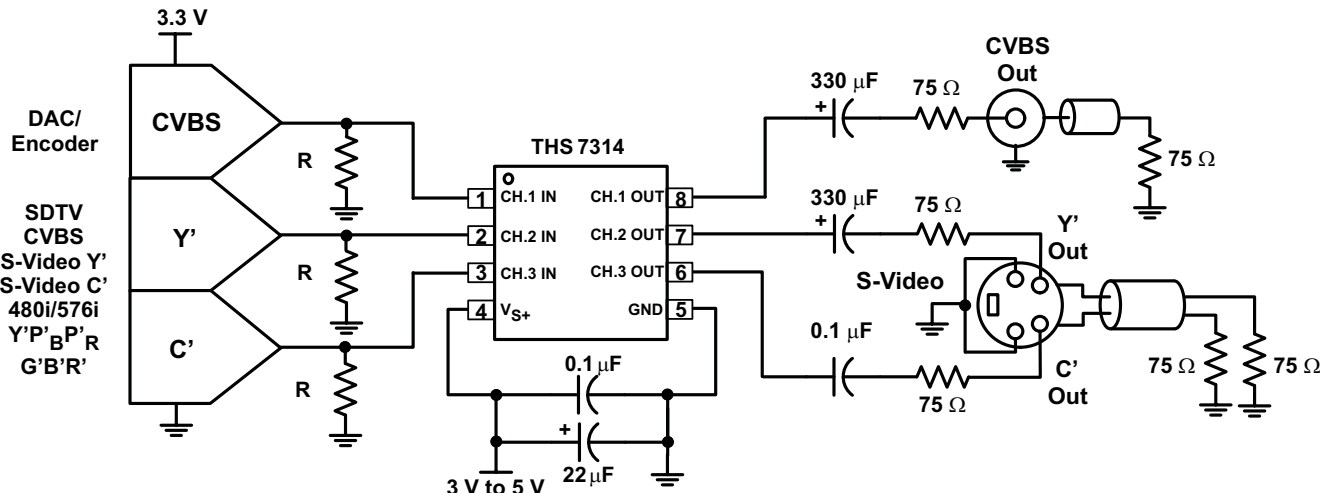

Figure 29. Typical SDTV CVBS/Y'/C' Inputs From DC-Coupled Encoder/DAC With AC-Coupled Line Driving
A typical application circuit using the THS7314 as a video buffer is shown in Figure 29. It shows a DAC (or encoder such as the THS8200) driving the three input channels of the THS7314. Although the S-Video Y'C' channels and the Composite video channel of a Standard Definition video (SD) system are shown, these channels can easily be the Y'P'B'P'R (sometimes labeled Y'U'V' or incorrectly labeled Y'C'B'C'R) signals of a 480i or 576i system. These signals can also be G'B'R' (R'G'B') signals or other variations.